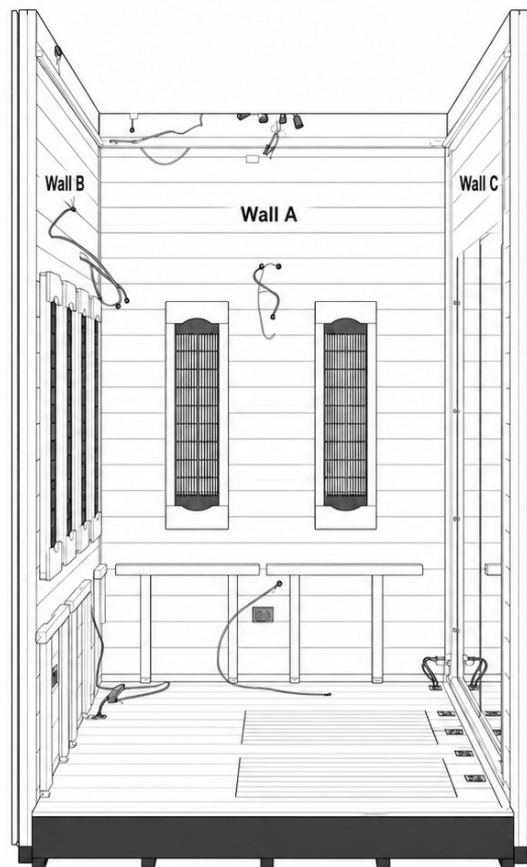

Figure 9. Glass Wall (C) lowered into the caulked corner at Wall A, screws started but not tightened.
- Apply caulk down the free vertical corner of Wall A, where the Glass Wall (C) will join it.
- Lower Wall C into position against the caulked corner of Wall A and against the Floor Panel edge on side C (Figure 9). Start the screws but do not fully tighten them yet.